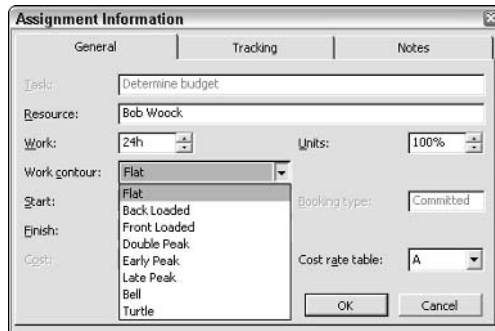

Figure 10-17: Use the General tab of the Assignment Information dialog box to select a contour.
2. In the Task Name column, double-click the resource for which you want to apply a contour, or select the resource and click the Assignment Information button on the Standard toolbar. Then click the General tab of the Assignment Information dialog box, as shown in Figure 10-17.